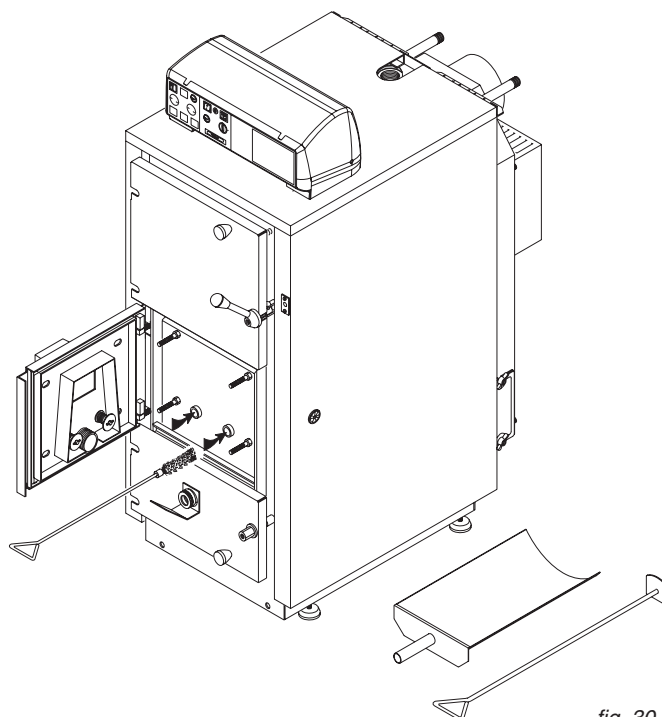

fig. 30
- 2) Check that the two holes for the secondary air, placed in the front part of the main stone, just in front of the two adjustment screws, are not obstructed; if they are, pass a **soft brush** in both the holes, as shown in fig. 30.
Remove the central wall (fig. 30) where the air adjustments are placed and clean the inner space carefully from tarry residues, dust and wood flakes which have entered through the primary air holes. Clean the secondary air passages carefully with a **soft brush**.